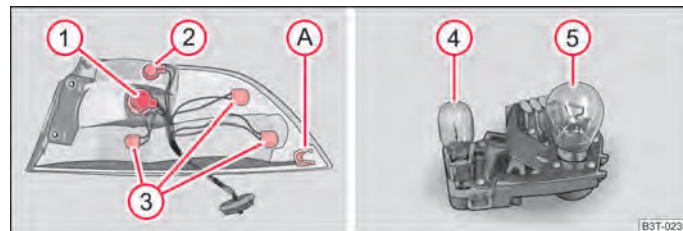

Fig. 208 Outer part of the rear light unit: Bulbs/inner part of the rear light unit: Lamps
- To re-insert the rear light unit, first of all guide it with the support **A** → **fig. 208** towards the front onto a bolt on the bodywork.
- To change a bulb of the reversing light **④** → **fig. 208**, pull the defective bulb out of the fixture and insert a new one.
- To change the bulb of the rear fog light **⑤** → **fig. 208**, turn the defective bulb to the left up to the stop and take it out.
Fitting position of the bulbs in the outer rear light unit → **fig. 208** - left.
Fitting position of the bulbs in the inner rear light unit ⇒ fig. 208 - right.